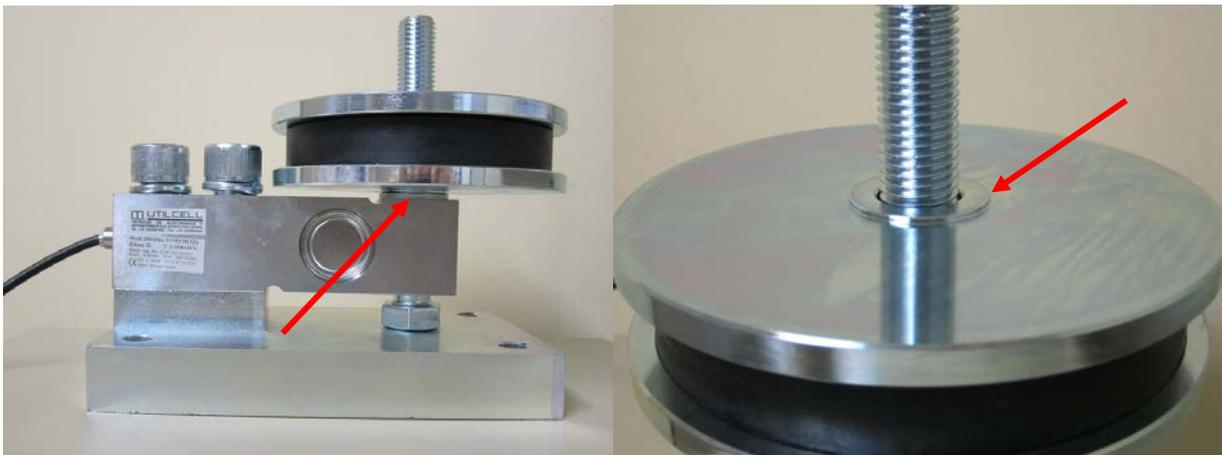

Figure 5
5. PERFORM THE MOUNTING OF THE WASHER ABOVE THE LOAD CELL; CONTINUOUSLY MOUNT THE SILENT-BLOCK WITH OUTSIDE METAL CENTRAL LEDGES (Figure 5-right)